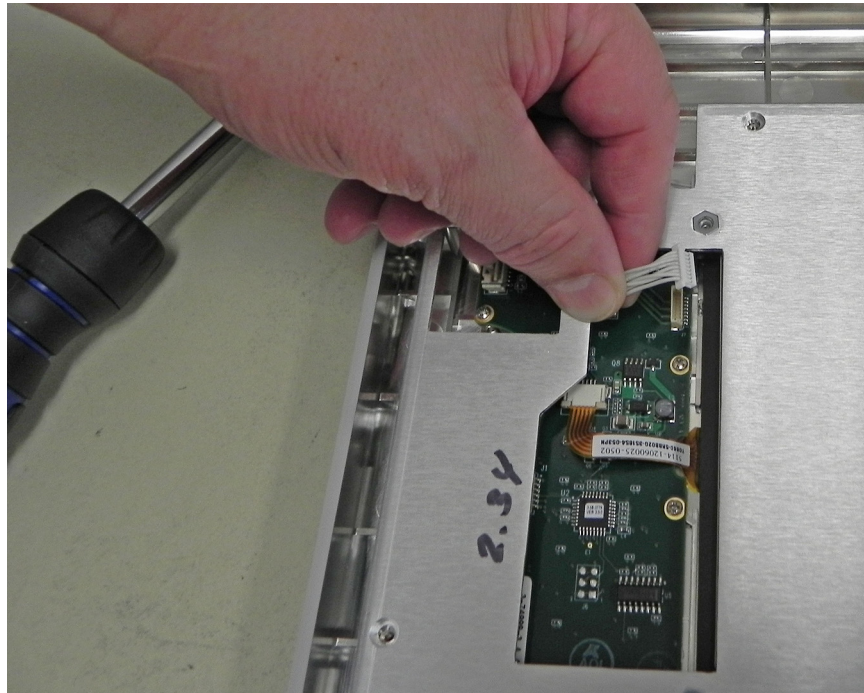

Figure 5-11. Disconnect Backlight Cable
3. Disconnect the LCD Backlight Cable from the Keypad PCB (Figure 5-11).